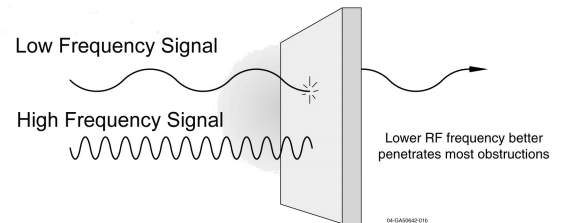

Figure 2 - Low Frequency Signals Penetrates Objects Better Than High Frequency Signals
The Hazmat Cam transmits a frequency modulated (FM) analog video signals at 900 MHz rather than 2.4 GHz used by competitive products because lower frequency signals pass through structural objects, such as building walls, better than high frequency signals for a given transmit power. This capability is depicted in Figure 2.